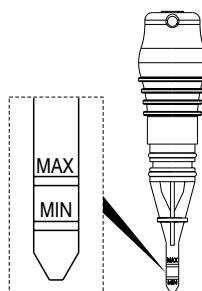

FIGURE 9 - OIL LEVEL DIPSTICK
3. Always keep oil level between the marks "MAX" and "MIN" on the oil level dipstick (Figure 9 - see page 7).
- Check oil level dipstick (Figure 9).